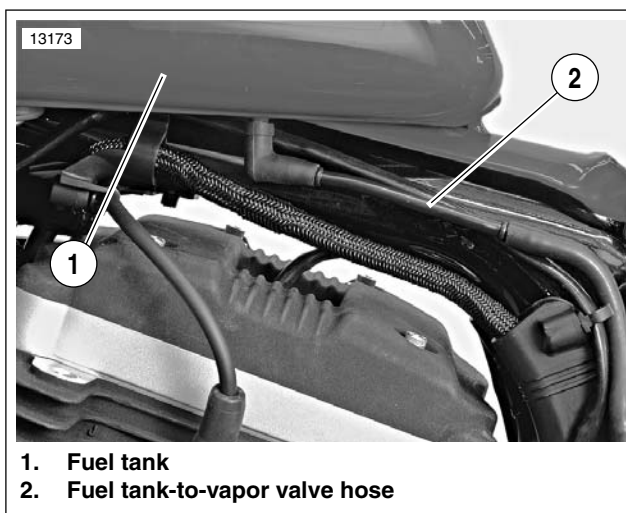

Figure 4-60. Fuel Tank-To-Vapor Valve Hose Routing
18. Replace Figure 4-60 on page 4-47 with Figure 4-60 below.